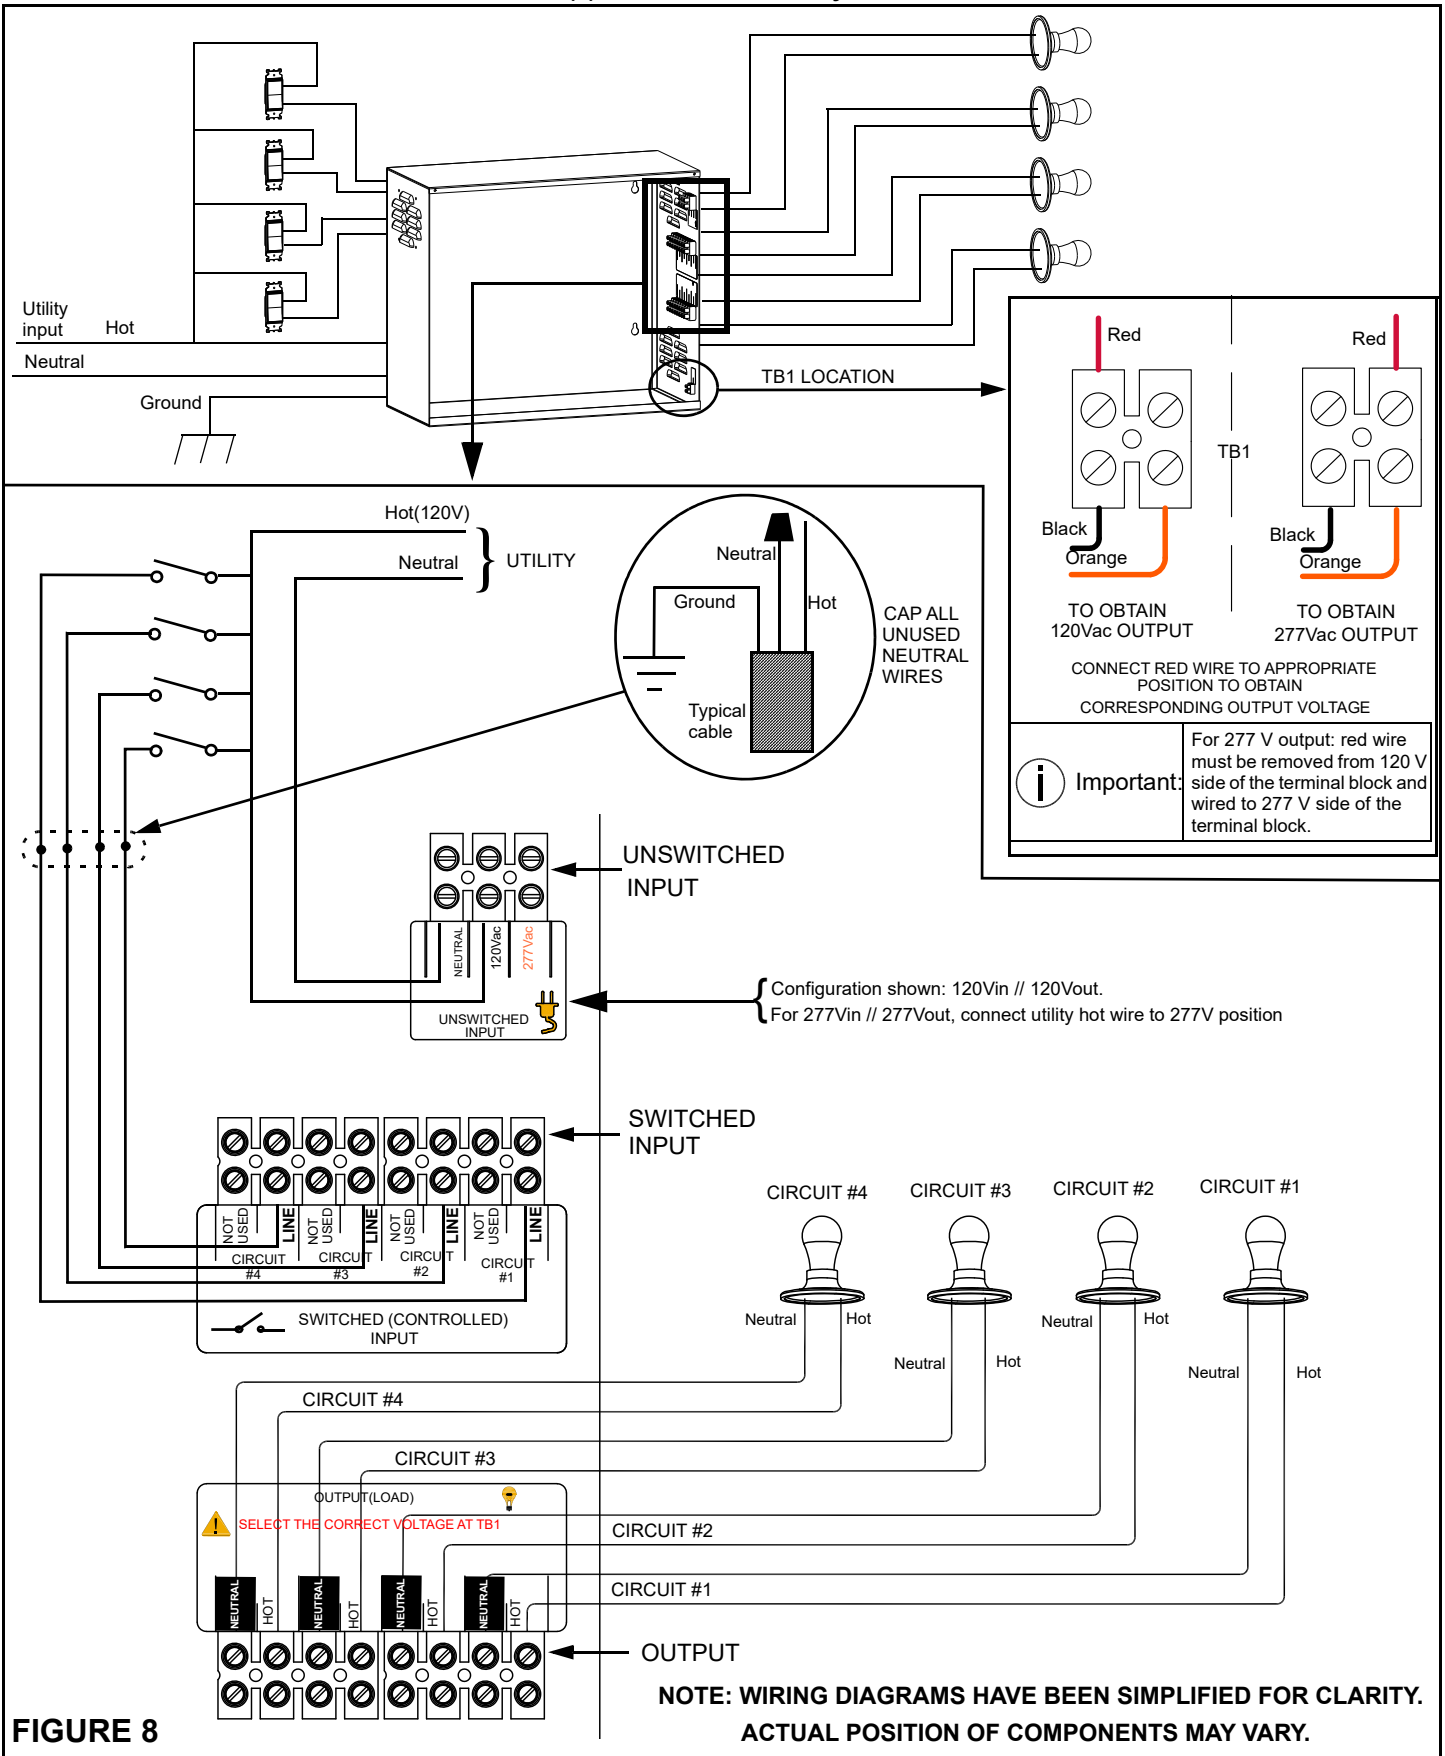

FIGURE 8
- c. **Switched Load Operation** (Refer to Figure 8 for wiring details) - Fixtures can be externally controlled and will illuminate upon loss of utility AC power regardless of the state of the external control device (switch, motion sensor, dimmer, etc.).